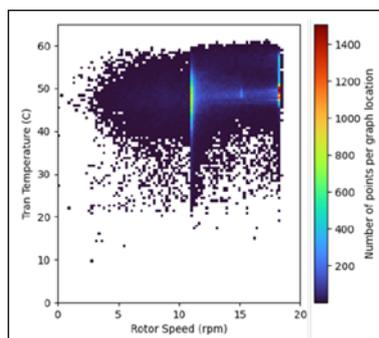

Figure 5—Oil sump temperatures (Ref. 18).
- **Operating temperatures.** Data were available for the temperature of the oil sump for approximately 7.5 years of the 8 years of operation. Oil sump temperatures ranged from 20°C to 66°C, with the densest cluster being between 40°C and 60°C, as shown in Figure 5 [16]. Later measurements on a replacement gearbox showed the temperature of the outer race of the high-speed-shaft bearing, one of the highest operating temperatures in the gearbox, did not exceed 70°C [19]. Based on this, calculations for the sun pinion were performed with a normal oil temperature of 50°C and a worst-case temperature of 70°C.
The draft wind turbine design document also recommends that the safety factor against micropitting should be greater than 2.0 to avoid damage. However, it strongly encourages the engineer to verify the results of the calculation to field experience with similar gear sets and establish a minimum safety factor based on that with values between 1.5 and 2.0. The safety factors calculated for Case 2 approach 2.0 as the oil temperature is raised toward 70°C. However, the gear drive never operated at this temperature. As can be seen in Figure 5, the maximum temperature was 66°C and was between 40°C and 60°C for the majority of the operating time. This is a case where the calculated safety factors should be validated against field experience.